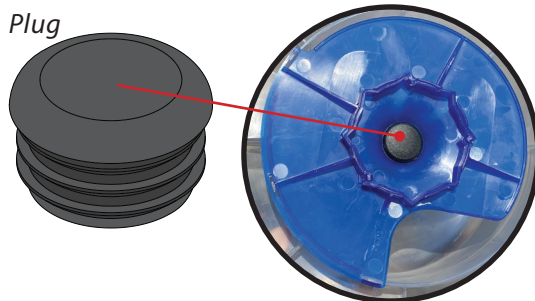

FIG. 5
4. Ensure your Dust Deputy Low-Pro model has the central Plug installed [FIG. 5]. If your model is missing the Plug, please contact Oneida Air Systems' Customer Service Department at 1-866-387-8822 or support@oneida-air.com and we will send out a replacement free of charge.